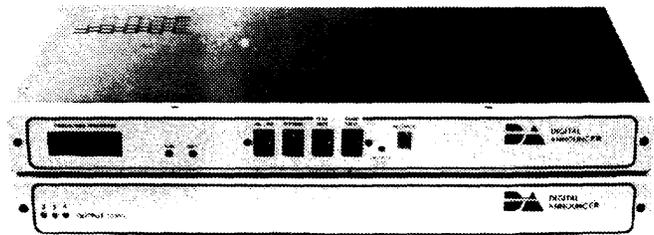

Fig. 1 - Model 213400 Multi-Channel Digital Announcer
2.01 The Cook Electric Model 213400 Multi-Channel Digital Announcer (see figure 1) provides four channels of recorded voice messages, utilizing the latest in digital recording techniques. For each channel, the voice message is recorded electronically, stored as digital signals in solid state memory chips, reconstructed and played back on command. The announcer is capable of high quality voice recording and reproduction, which will not degrade with use. Thus, the use of digital recording completely eliminates the use of magnetic tape or drums and the associated electrical and mechanical operating devices.